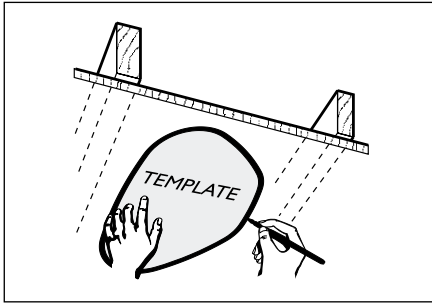

Fig. 15: Use template to mark position of Tastic
1. After determining the location of the Tastic and components according to directions, use the card included with your Tastic Carton as a template to mark out and cut an aperture in the ceiling (Fig. 15). Make sure that template is parallel to a wall.